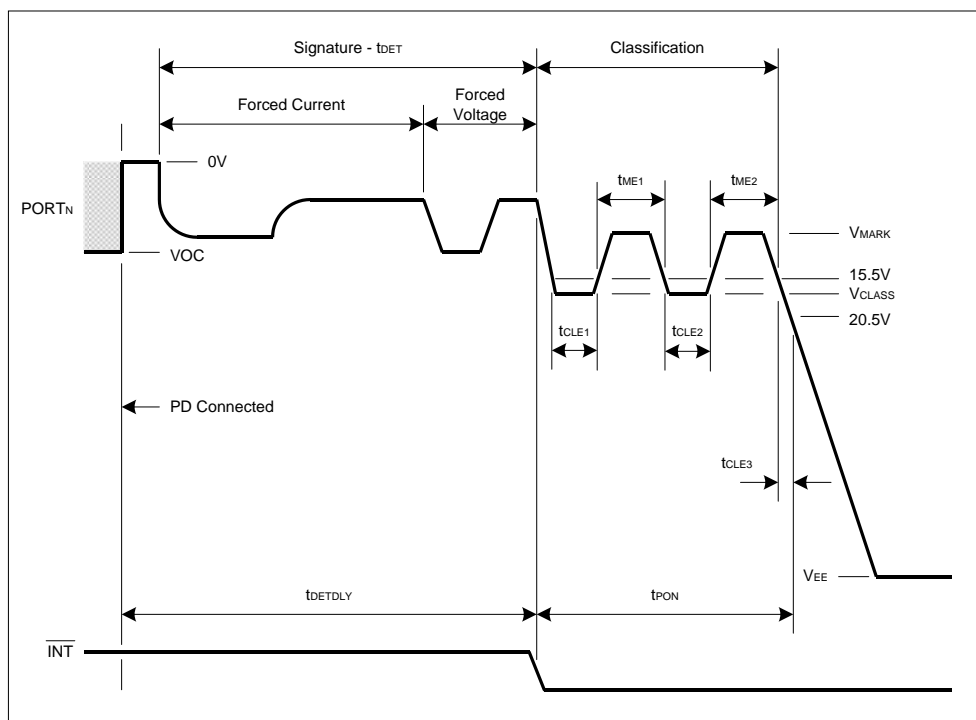

Figure 9: Signature, Class and Turn-On Timing - Type 2 PD
The Ag6400 will automatically perform the Signature and Classification in Hardware or Software mode (when enabled). Figure 9 shows the full timing sequence for a Type 2 Powered Device (PD).